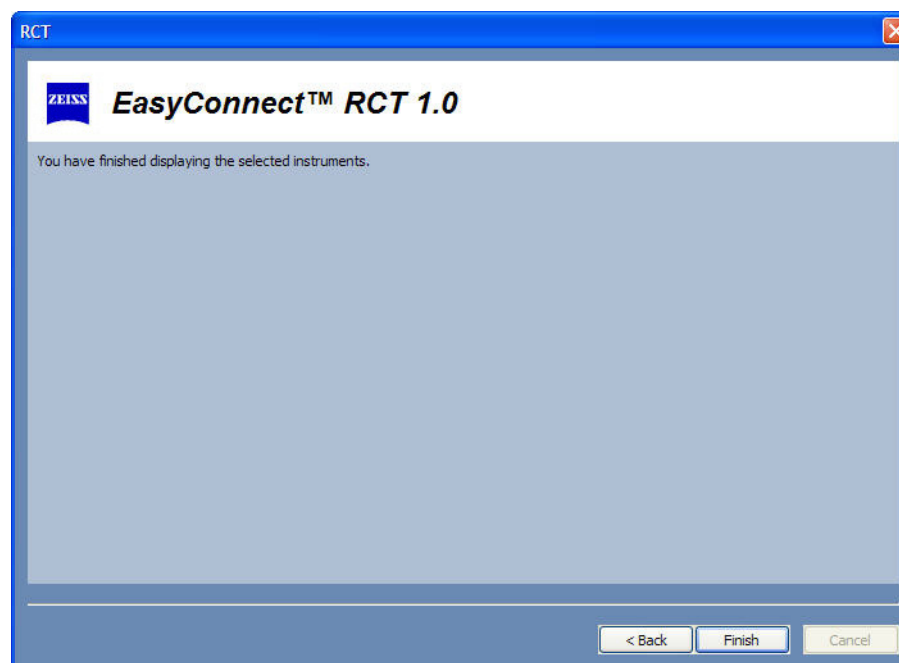

Figure G.42 Completion Screen
- 5 After all instruments have displayed their feature configurations, the RCT will display a Completion screen (Figure G.42). Select FINISH to exit the RCT.